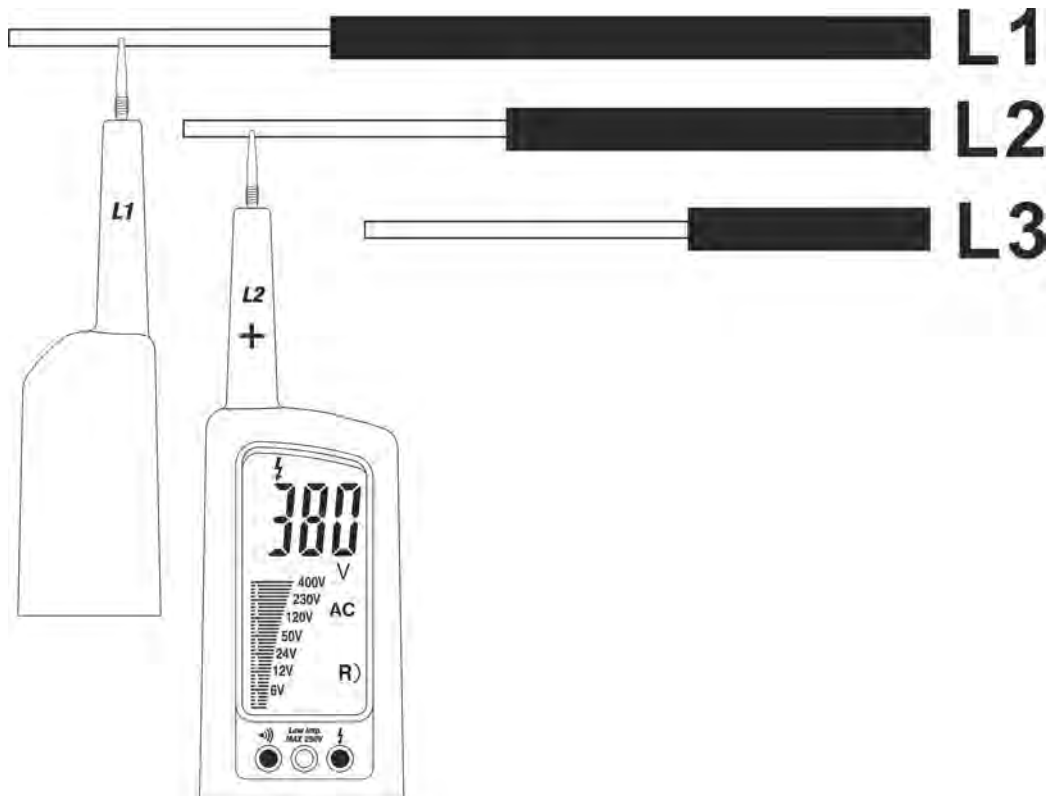

Fig. 6: Phase sequence test
2. Connect the L1 probe to phase 1 and the L2 probe to phase 2 of the three-phase system under test (see Fig. 6). The measurement is performed **only when probes are in contact to live conductors**.